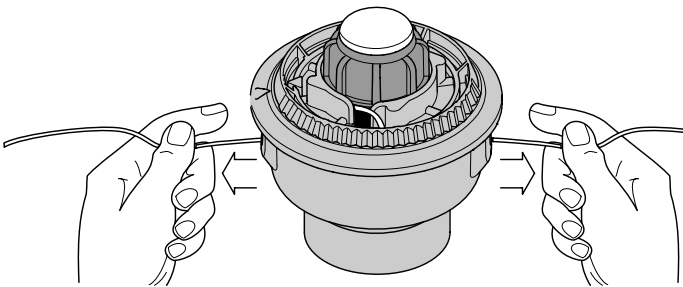

Fig. 51
- If winding the line becomes difficult or if the line jams, pull the ends of the line from the spool (Fig. 51). Continue winding the inner reel counterclockwise.
If the SpeedSpool® does not release line correctly, pull the ends of the line firmly from the spool (Fig. 51). If this does not release the line, follow the *Cleaning the SpeedSpool®* instructions.